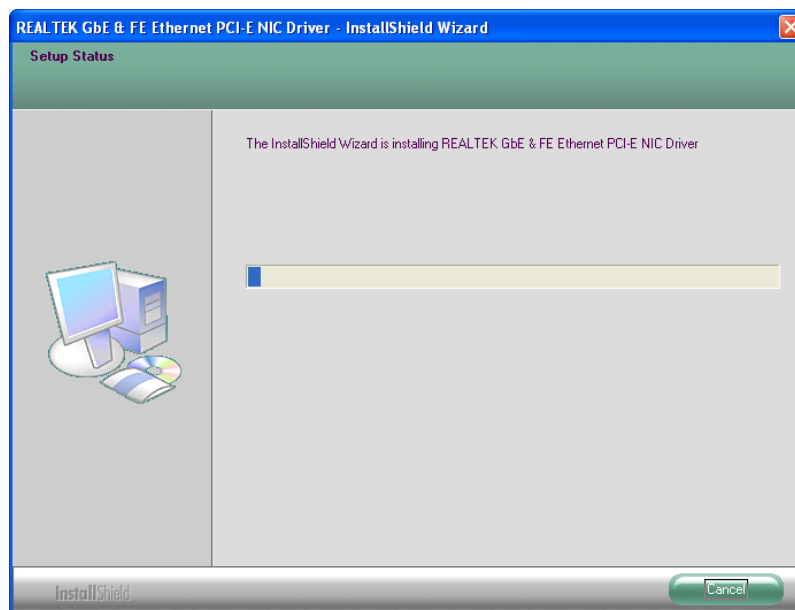

Figure 7-19: LAN Driver Installation
Step 8: The installation progress can be monitored in the progress bar shown in **Figure 7-19**.